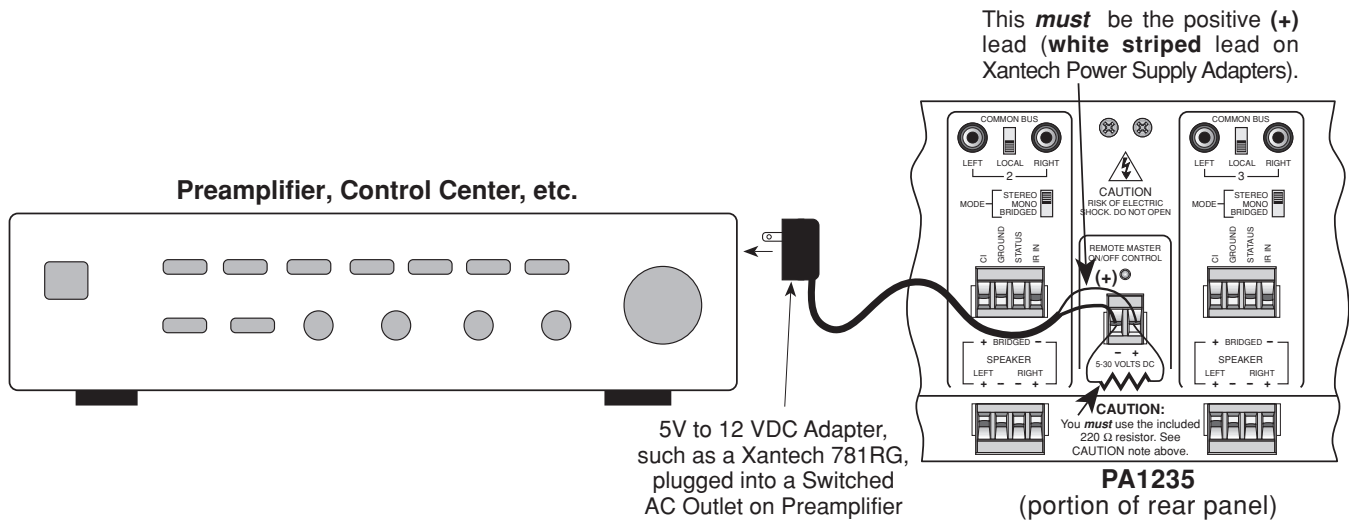

Fig. 9 Using the REMOTE MASTER ON/OFF CONTROL Terminals
As mentioned under "PA1235 PANEL AND FEATURE DESCRIPTIONS", the REMOTE MASTER ON/OFF CONTROL terminals allow the power to the entire PA1235 to be turned ON and OFF by a remotely applied DC Voltage. **Figs. 9** and **11** are typical applications using this feature.
- **CAUTION:** The output voltage of some adapters, such as the 781RG, drops off too slowly to provide a quick turnoff for the PA1235. Therefore, when using *any* adapter (12 VDC max), **always** connect the included 220 Ohm 1 Watt resistor in shunt with the REMOTE MASTER ON /OFF CONTROL terminals as shown in **Fig.9**. Failure to do so may result in blowing of the power line fuse (item #10, **Fig.3**)
CAUTION: When making this connection, **do not** use the included 220 Ohm resistor! Refer also to CAUTION notes, **Fig. 9**.
- If the REMOTE MASTER ON/OFF CONTROL terminals (item #12, **Fig. 3**) are used, be sure applied voltage is between +5 V and +30 VDC with proper polarity. Refer to **Fig. 9**.
- The supplied 220 Ohm resistor may not have been connected in shunt with the REMOTE MASTER ON/OFF CONTROL terminals. Be sure the resistor is connected and that the leads are making secure contact within the screw terminals of the connector. Refer to CAUTION notes, **Fig. 9**.